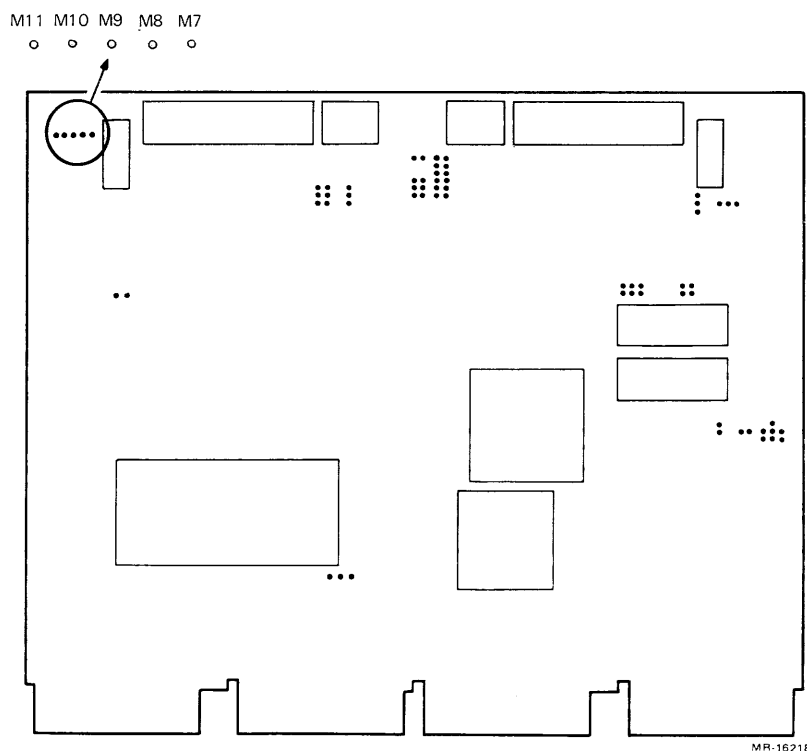

Figure 2-7 DMA Requests
DMA requests to the on-board DMA transfer controller (DTC) may come from several sources. The KXJ11-CA has a set of jumpers that enable or disable DMA requests from: (1) the SLU2 channel A receiver, (2) the SLU2 channel A transmitter, or (3) the on-board 8036 PIO counter/timer. The location of these jumpers is shown in Figure 2-7. Only two of the three sources may be specified (jumped) at one time. The two sources that are jumpered as part of the factory configuration are SLU2 channel A receiver and SLU2 channel A transmitter.